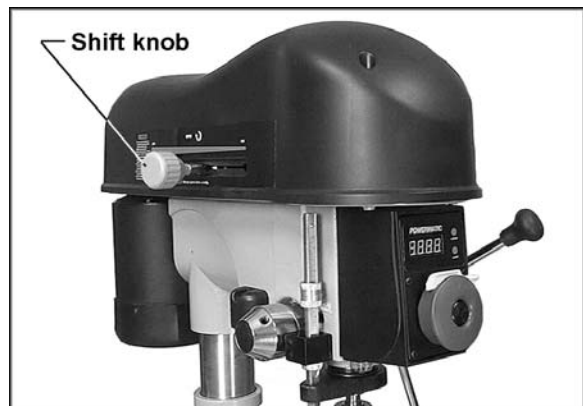

Figure 8
3. Insert the shift knob into the collar on the side by screwing it in clockwise (Figure 8).